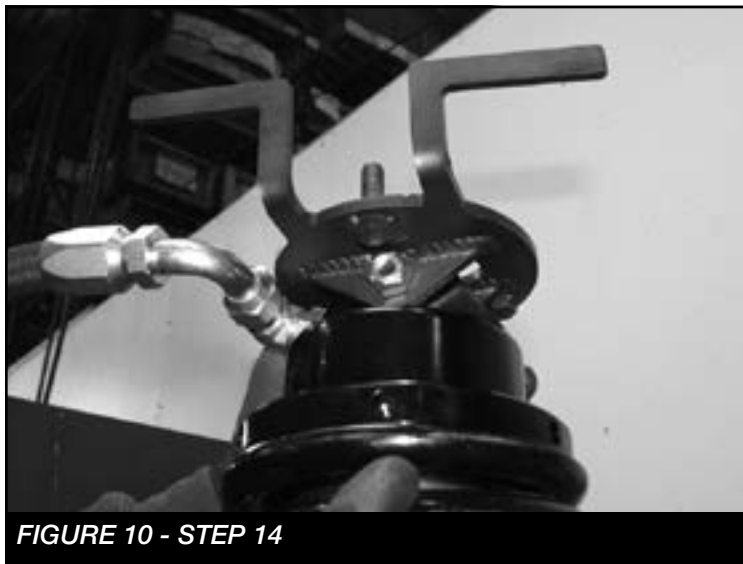

FIGURE 10 - STEP 14
14. REPEAT STEP 13 FOR THE PASSENGER SIDE. Use the Passenger side Coilover, FT30727 (pass upper mount) bushings, misalignments and 1/2" hardware. SEE FIGURE 10 FOR COMPLETED ASSEMBLY.